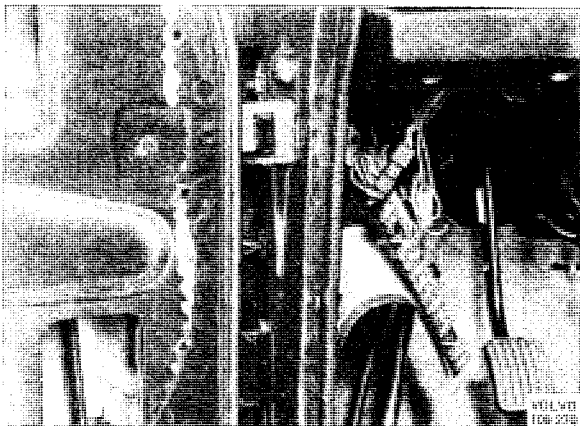

Fig. 8-24. Removing fuse box
7. Remove the fuse box and disconnect the contacts, see Fig. 8-24.